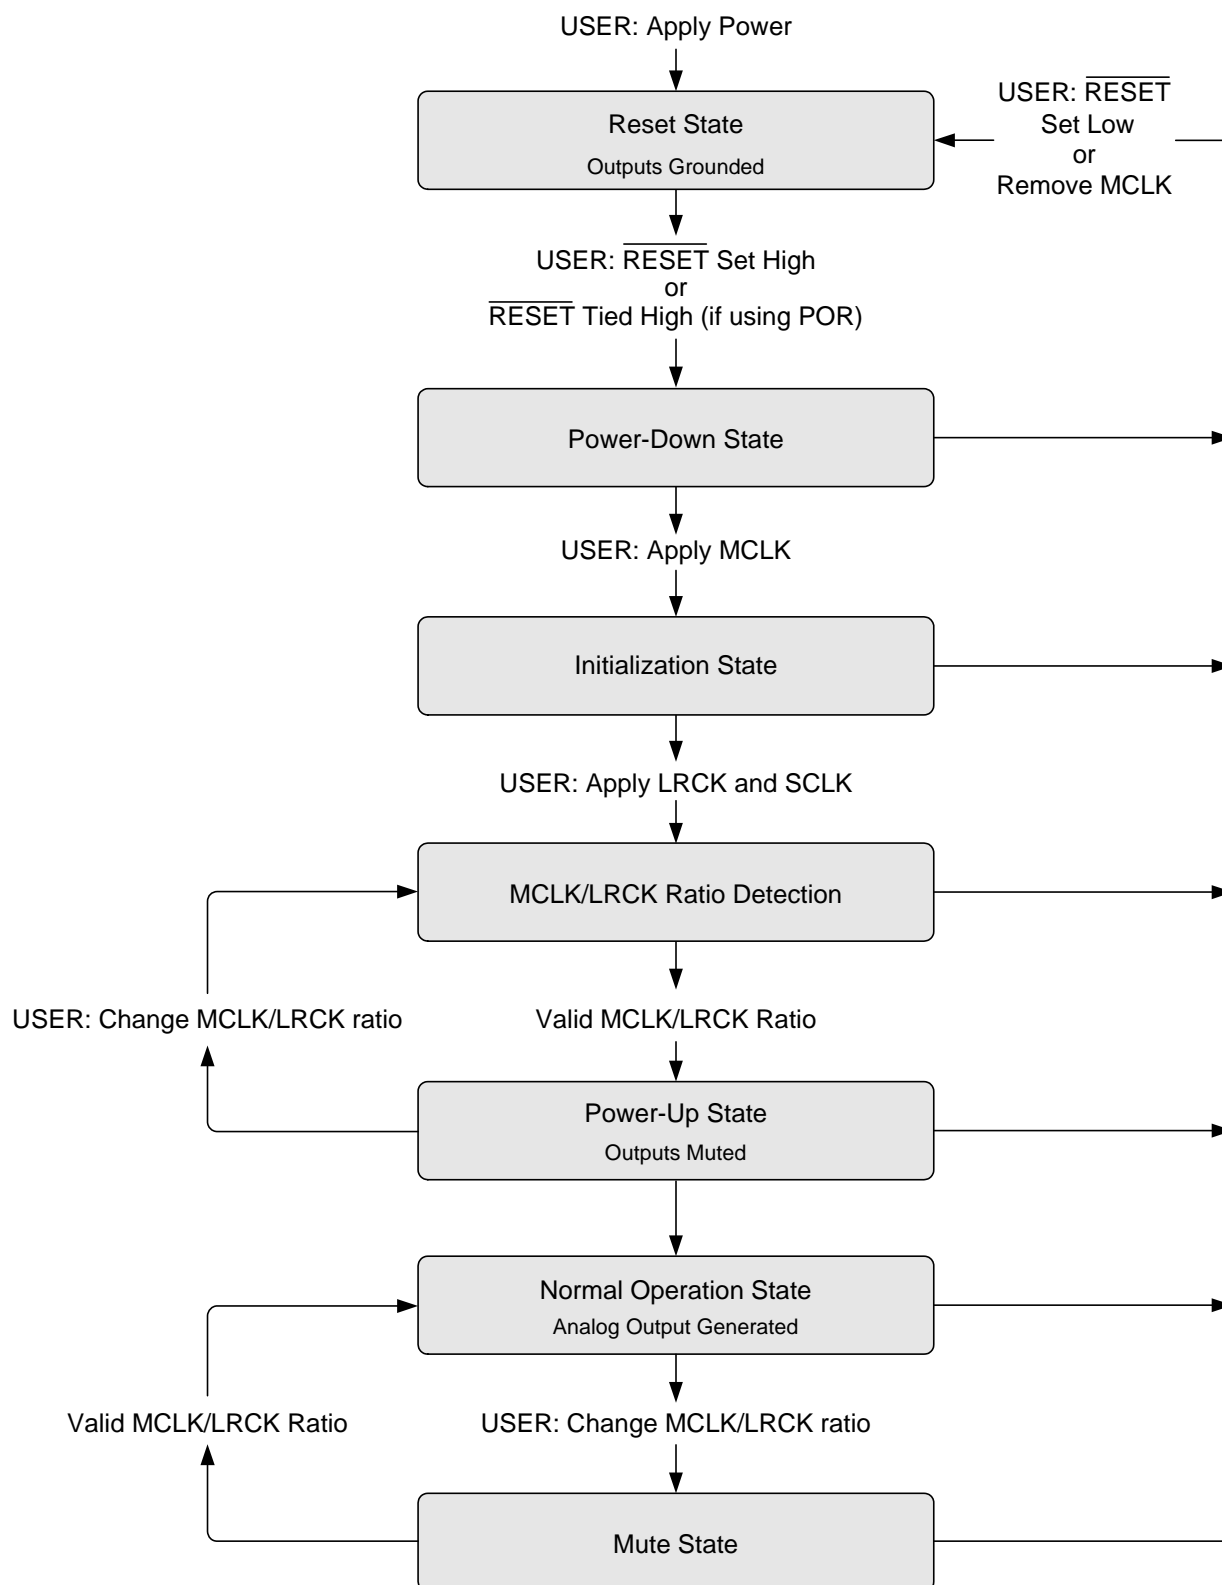

Figure 9. Initialization and Power-down Sequence Diagram
The CS4353 operates in one of three operational modes. The device will auto-detect the correct mode when the input sample rate (F_s), defined by the LRCK frequency, falls within one of the ranges illustrated in Table 2. Sample rates outside the specified range for each mode are not supported. In addition to a valid LRCK frequency, a valid serial clock (SCLK) and master clock (MCLK) must also be applied to the device for speed mode auto-detection; see Figure 9.
See Figure 9 for a diagram of the device's states and transition conditions.
4. After the power supplies, configuration pins, and clock signals are stable, bring $\overline{\text{RESET}}$ high. The device will initiate the power-up sequence seen in Figure 9. The sequence will complete and audio will be output from AOUTx within 50 ms after $\overline{\text{RESET}}$ is set high.
3. After the power supplies and configuration pins are stable, provide the correct MCLK, LRCK, and SCLK signals to progress from the 'Power-Down State' in the power-up sequence seen in Figure 9. The sequence will complete and audio will be output from the AOUTx pins within 50 ms after valid clocks are applied.